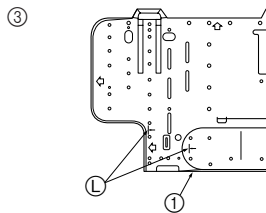

Fig. 3-7
- ③ If the flare pipe is to be embedded into the wall in advance: (Fig. 3-7)
- ① Wall mounting fixture